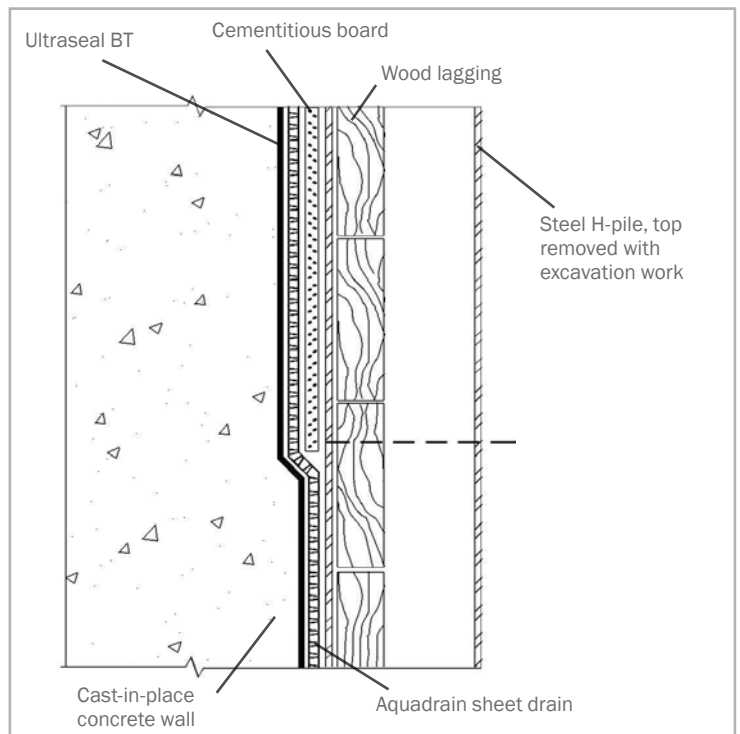

Figure 2.13 - WALL EXCAVATION AT GRADE - Cementitious board protects waterproofing during excavation and removal of steel pile top and wood lagging.
**Cementitious Board:** Prior to installing Ultraseal BT to finished grade, install 1/2" (12 mm) thick cementitious wall board centered over steel soldier pile from finished grade elevation to specified depth that the top of steel soldier pile and wood lagging will be removed (Figure 2.13).